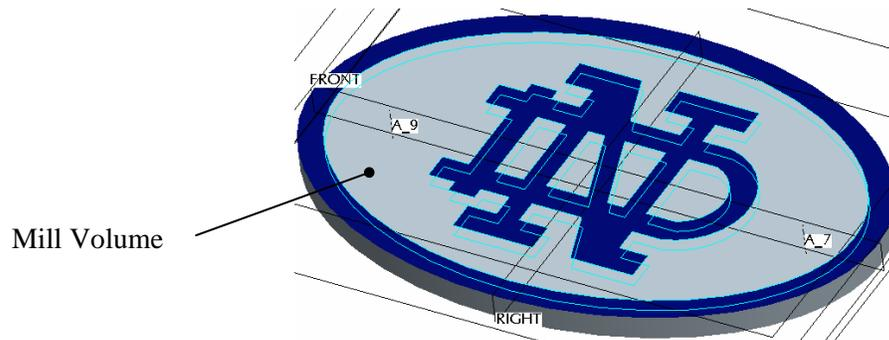

Figure 7e: Select Milling Volume
Step 14: Select previously defined milling volume, Figure 7e.